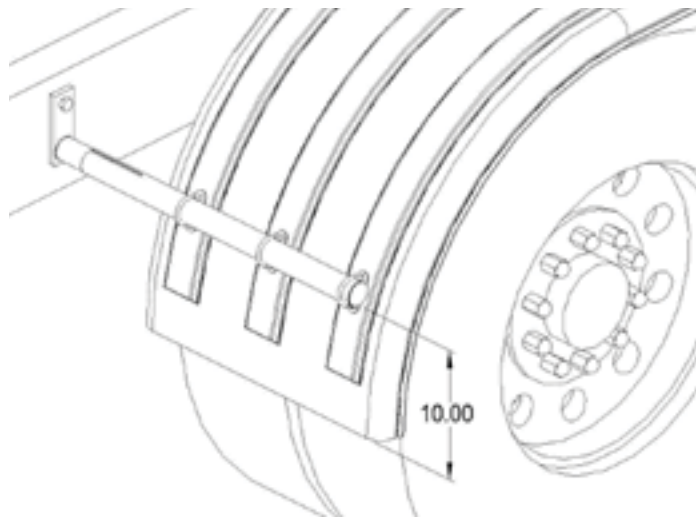

Figure 4
- C. Make sure the brackets are within 10" of the bottom of the fender to avoid wind blowing the fender back into the tire. If the front fender bracket is mounted higher than 10", run a piece of steel strapping on the inside of the fender to give it extra strength (see Figure 4).